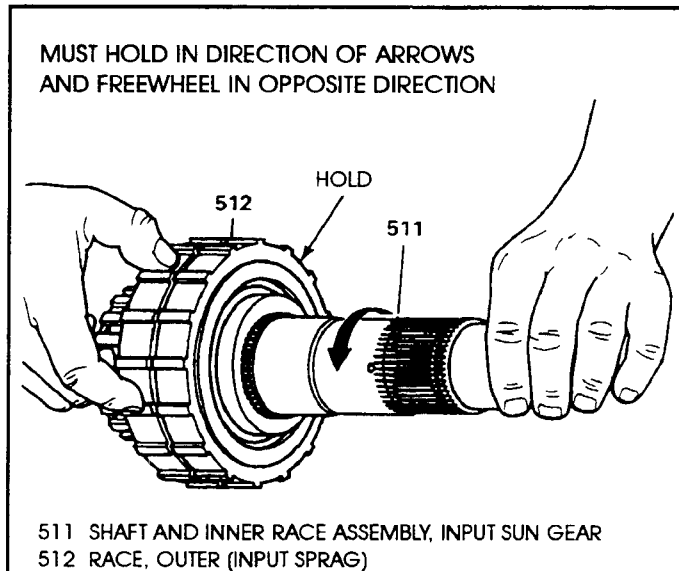
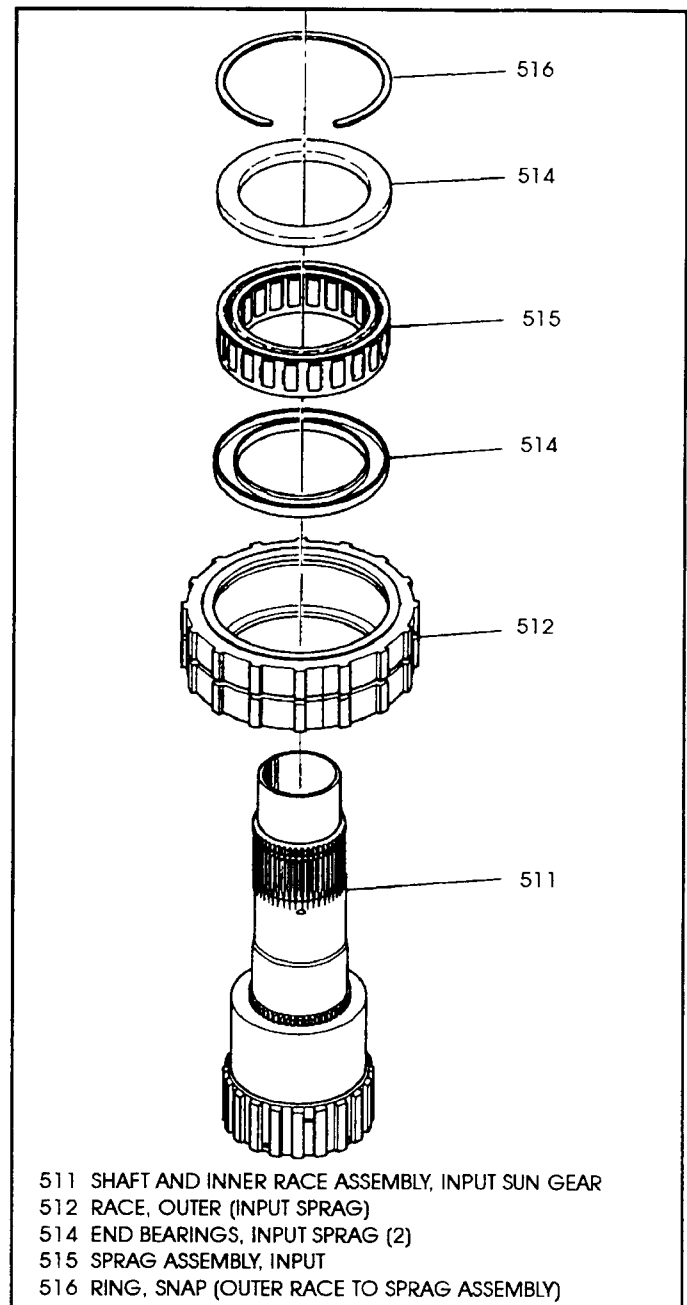

Figure 132
Figure 133
16. Place the input sprag outer race (512) on bench with the flat side down and the end with snap ring groove facing up (See Figure 133).
17. Place one end bearing (514) into the outer race as shown in Figure 133.
18. Install the input sprag assembly (515) into the sprag outer race with the grooved edge up and the flat side down, as shown in Figure 133.
19. Install the other end bearing (514) on top of the input sprag assembly as shown in Figure 133.
20. Install the snap ring (516) into the sprag outer race to retain the input sprag and end bearings as shown in Figure 133.
21. Install the input sprag and outer race assembly onto the input sun shaft (511), with the snap ring side of the assembly facing up, as shown in Figure 133.
22. Rotate the input sun shaft (511) clockwise during assembly to help the installation.
24. Verify the correct operation of the input sprag by holding the sprag outer race and rotating the input sun shaft, as shown in Figure 132.
The input sun shaft should rotate only in the clockwise direction (See Figure 132).